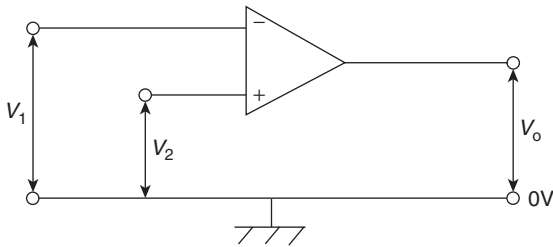

Figure 19.13
If both inputs of the op amp shown in Fig. 19.13 are used simultaneously, then from equation (1), page 290, the output voltage is given by: